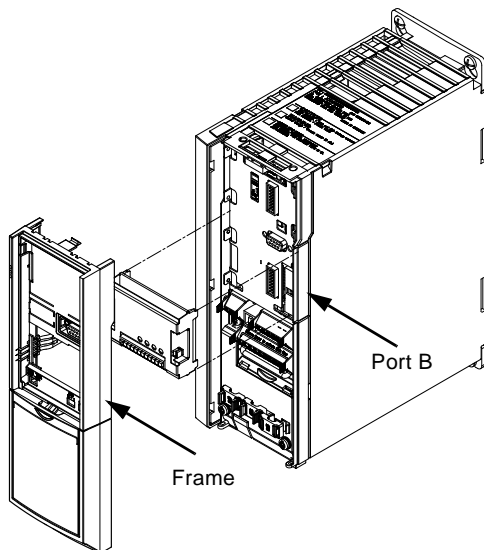

Fig. 3 Enclosures A2, A3 and B3
2. Remove the control panel, the terminal cover and the frame from the CUE. See fig. 3.